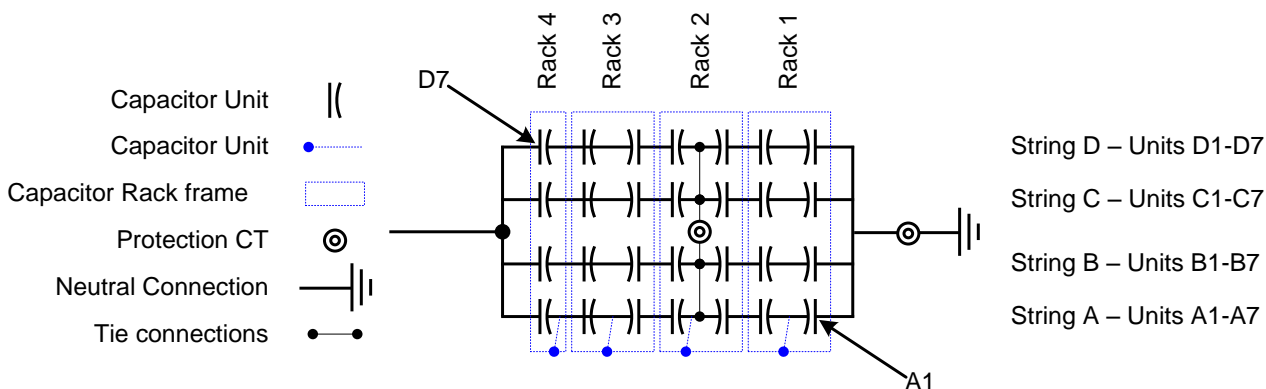

Figure 4b – Circuit layout of one phase of the harmonic filter *Capacitor Bank* (termed *Capacitor Stack*)
- Application points of discharge stick (refer to figure 4b)
- Location of any shorting leads (refer to figure 4b)